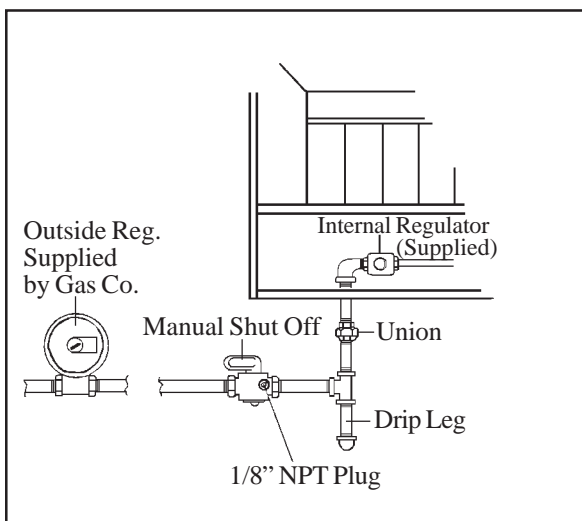

FIGURE 5
**STEP 1.** Make the gas connection between the manual shut off valve and regulator located inside heater cabinet. Hold regulator when tightening connection to prevent damage to regulator and internal tubing. See Figure 5 for completed installation.